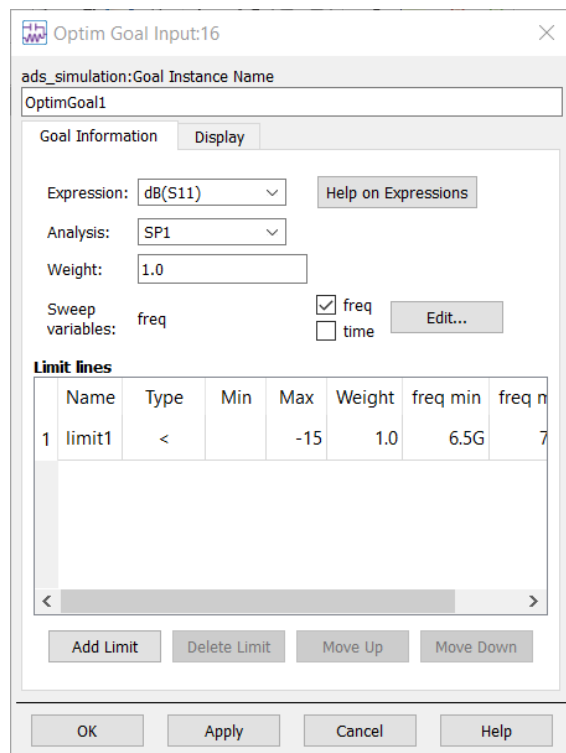

Figure 34. Optim Goal Input window
3. Open the **OptimGoal1** setup window by double clicking on it. Notice that in the **Expression** field, the value **dB(S11)** means that when the simulation is performed, S(1,1) will be calculated in dB. This quantity will be used as our goal for the optimization. The analysis is set to **SP1**, which is the name of the S Parameter block. Frequency will be the swept variable, which means that the goals will be analyzed over the range of frequencies. This is shown in Figure 34.